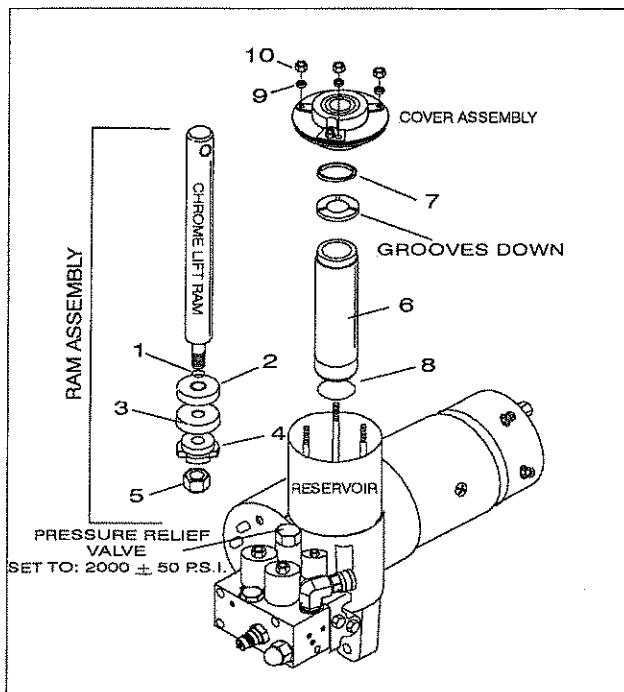

FIGURE 1
2. To disassemble Cover Assembly, remove the three Locknuts (10) and Nytilite Washers (9). See Figure 1.
3. Tap Cover Assembly up and off reservoir. If O-ring (7) came off with top cap discard it. This O-ring will not be reused.
4. Remove Lift Ram Assembly from Sump base. Remove O-ring (8) in bottom of Sump Casting. It will not be reused.
5. Remove chrome Ram Assembly from Lift Cylinder (6). Cylinder will not be reused.
6. To disassemble Lift Ram Assembly, remove nut (5), brass piston with packing cup, flatwasher and O-ring.
1. Assemble O-ring (1), Piston (2), Packing Cup (3), and Piston Follower (4) to Chrome Ram. Secure parts with nut (5). See Figure 1
2. Assemble Lift Ram Assembly into Lift Cylinder. Coat Piston Assembly with oil. Slide the Ram Assmby from the bottom up into cylinder (6).
3. Tap Ram Assembly up into Cylinder (6) making sure that no damage occurs to threads at the end of ram assembly or to bottom of cylinder (6) where O-ring (8) will sit.
4. Assemble washer with grooves facing downward onto chrome ram followed by O-ring (7).
5. Assemble O-ring (8) in bottom of sump casting. Set Lift Ram Assembly squarley into sump base.
7. Assemble Nytilite Washers (9) over studs bevel down.
8. Secure Cover Assembly with nuts (10). Torque nuts to 125 in.lbs.